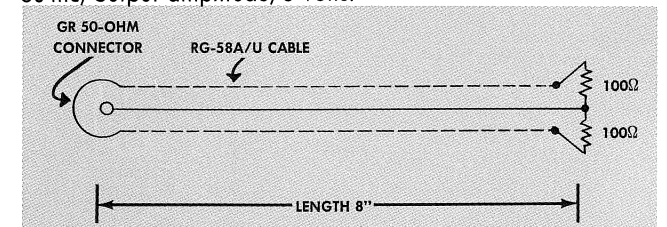

Fig. 6-1. 50-ohm terminated pigtail circuit.
- (4) Two terminated cables (50 Ω impedance) requiring the following parts: two 8" RG-58A/U cables; two GR 874-C58 (General Radio) 50 Ω connectors; four 100 Ω $\frac{1}{2}$ w resistors. Assemble as shown in Fig. 6-1.